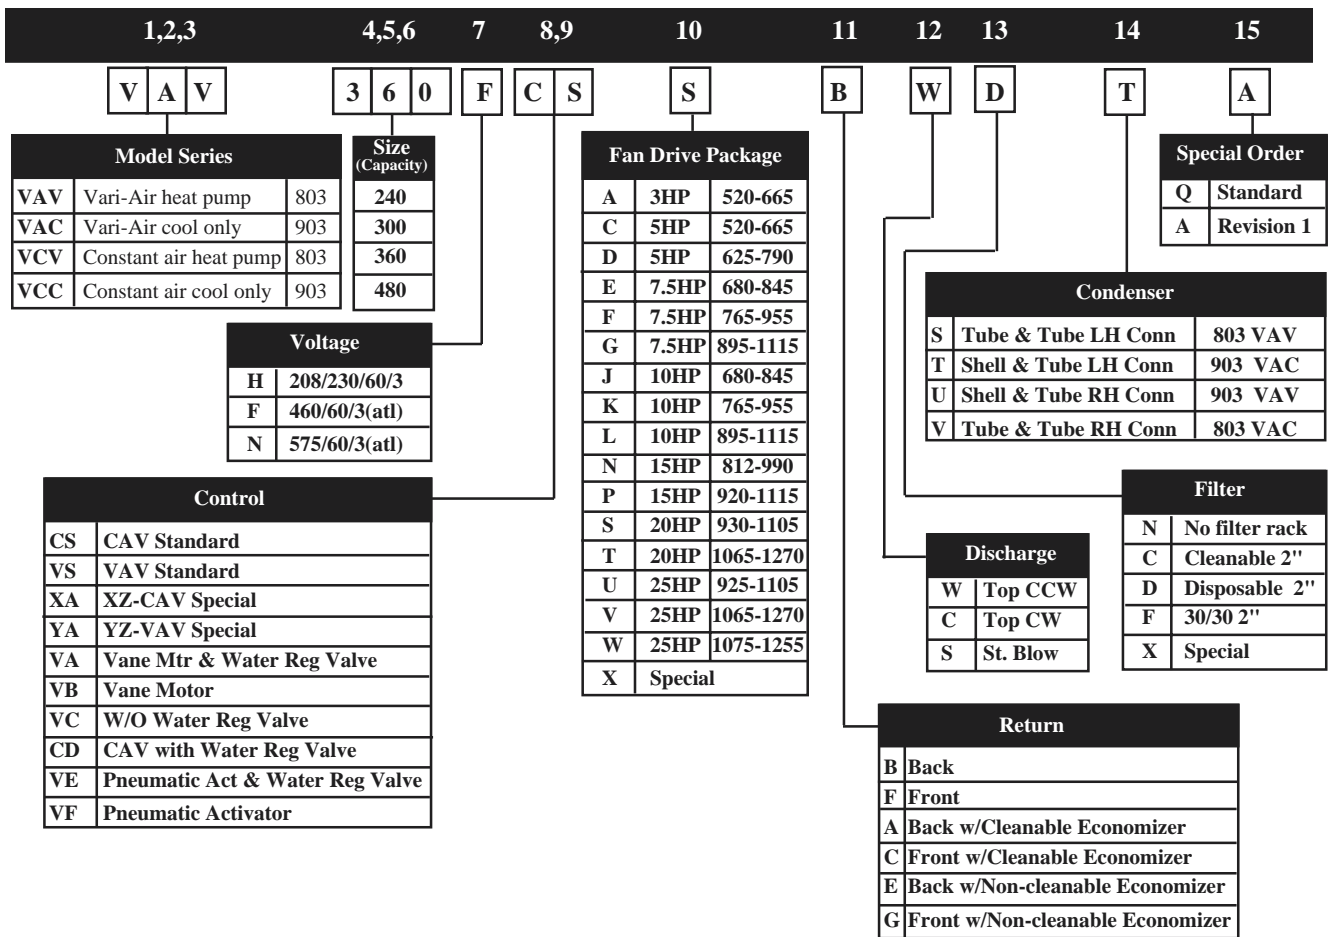
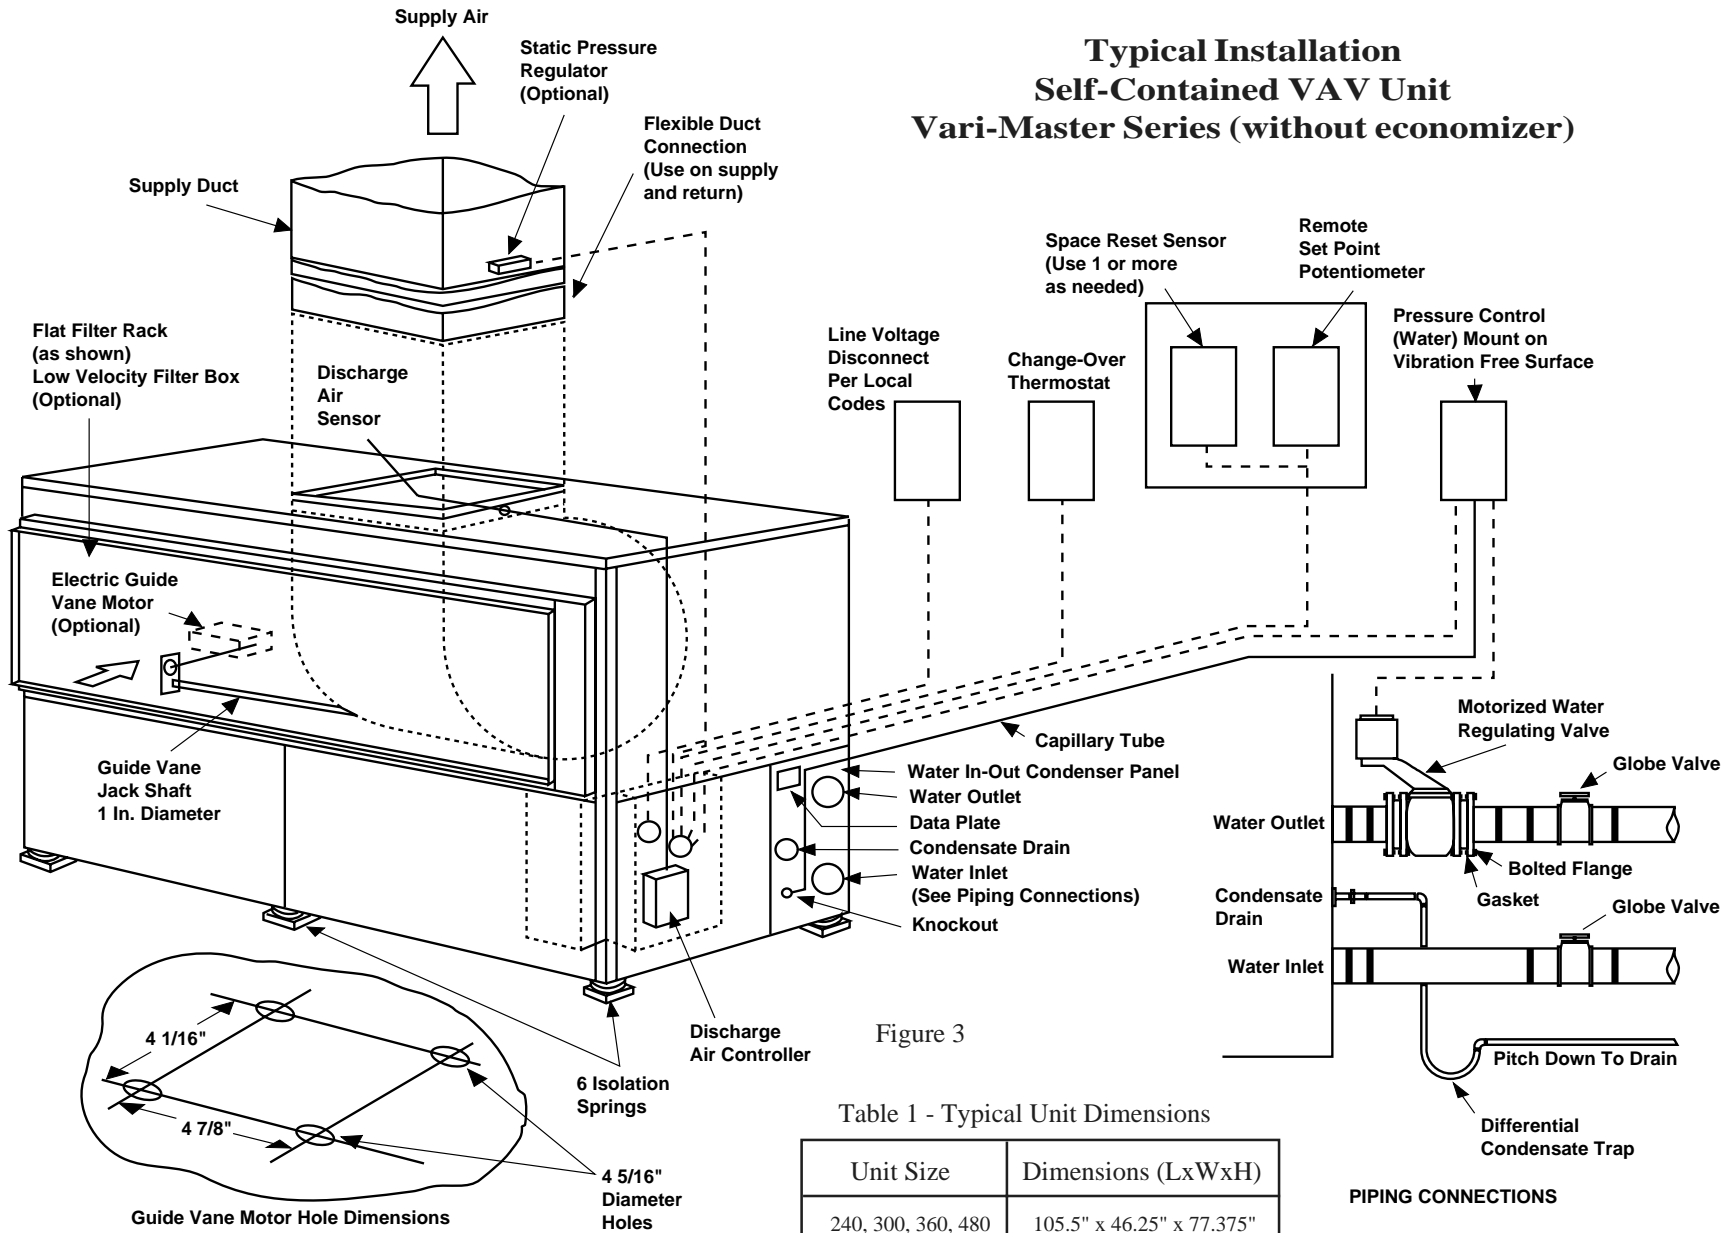

Figure 1 - Product Coding Chart
Figure 3
1. Compare the electrical data on the unit name plate (located on the in/out condenser panel) with ordering and shipping information to verify that the correct unit has been shipped. See Product Coding Chart (Figure 1, page 4) and Typical Installation (Figure 3, page 5) for additional information.
Vari-Master Units are typically installed in a mechanical room. Refer to Figure 3 for an illustration of a typical installation. Install units with adequate clearance to allow maintenance and servicing. Conform to the following guidelines when selecting unit location.
3. Installing flexible duct connectors between the unit and the supply and return ducts to isolate sound and vibration from ductwork (See Figure 3 page 5)
2. Refer to Figure 3, page 5 for examples of piping connections
Refer to submittal data for condensate pipe size. See Figure 3, page 5 for typical condensate pipe installation.
A water regulating valve is shipped separately for VAV units and must be field mounted by the installer. Install a globe valve on the water inlet and also after the water regulating valve on the outlet. See typical installation diagram (Figure 3, page 5). Flanges and gaskets at the water "out" connection and globe valves are not supplied by ClimateMaster.
Use the knockout located on the water connection panel (Figure 3, page 5) to route the cap tube to the port location. The pressure regulator is provided with a 36" long cap tube. Use an insulator to protect the cap tube from the edges of the knockout. When the distance between the unit and the water pressure regulator exceeds 36", an extension can be added to the cap tube.
When installing a motor in the field, mounting adaptors may be required. Refer to Figure 3, page 5 for the placement of mounting holes.